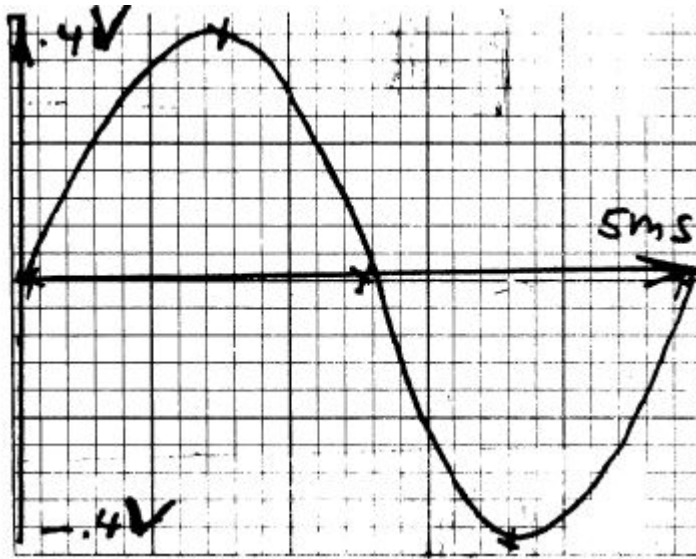

Figure 2:
- b. Repeat Part 3(a) for a 200 Hz $0.8 V_{p-p}$ sinusoidal waveform on Figure 2